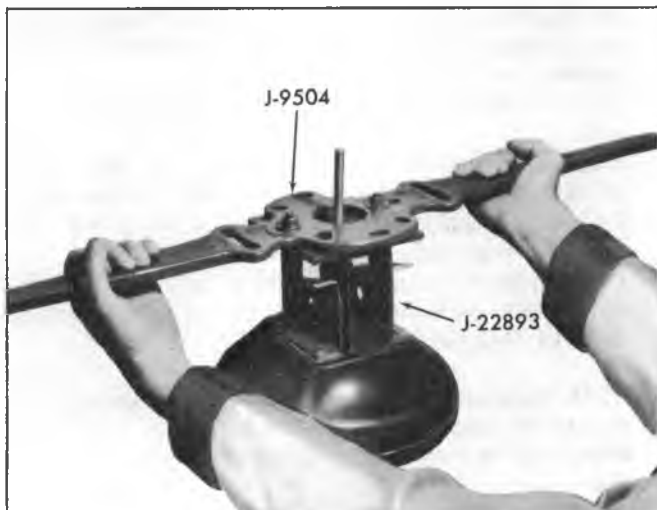

Fig. 5B—Separating Tilt Bracket Type Shells with Tools J-9504 and J-22893
**NOTE:** With tilt mounting bracket installations, place Tool J-22893 inside mounting bracket. Place Spanner Wrench J-9504 on top of J-22893 and tighten nuts and washers to bolts securing spanner wrench (fig. 5B).